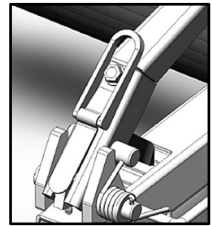

Fig. 4
4. Move the lever (E) to the up position (Fig. 4). Pump the foot pedal to retract the left arm (C) until the tire lifts off the ground. Apply the castor's brake.
7. Lower the tire by moving the lever (E) to the down position, depressing the foot pedal and then controlling the lowering of the tire by slowly raising the foot on the pedal. Repeat the pumping action until the tire touches the ground.